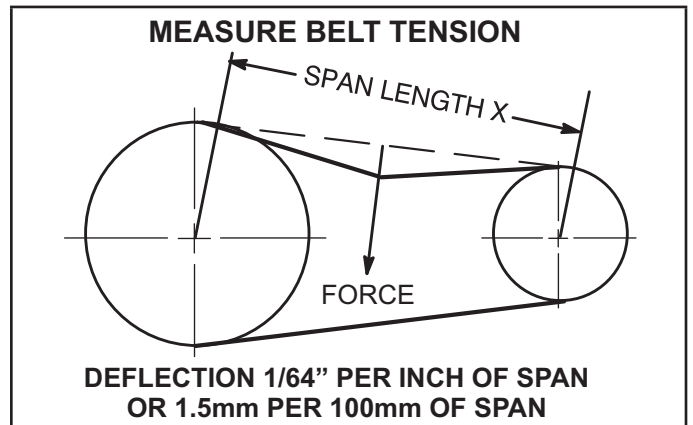

FIGURE 13
- 1 - Measure span length X. See figure 13.
- 2 - Apply perpendicular force to center of span (X) with enough pressure to deflect belt 1/64" for every inch of span length or 1.5mm per 100mm of span length.